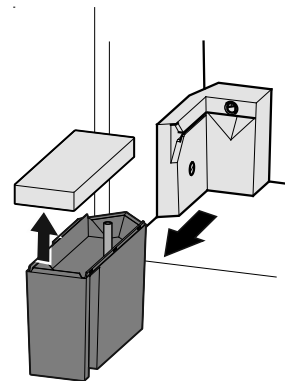

Figure 25
- Remove the water tank **Figure 25**.